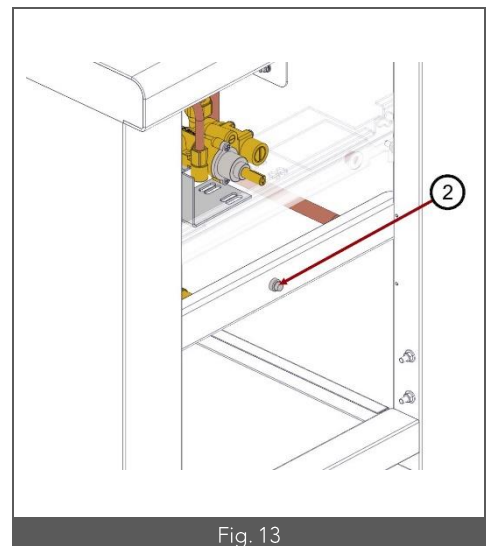

Fig. 13
- 4- The push-button is located behind the plate (Fig. 13 – Item 2), it is then possible to remove it.